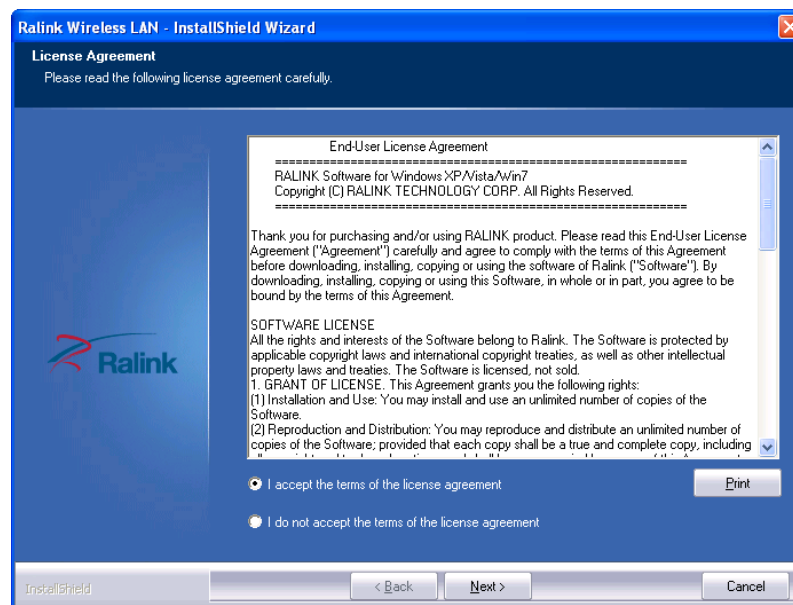

Figure 5-32: License Agreement
Step 3: The **License Agreement** screen in **Figure 5-32** appears.